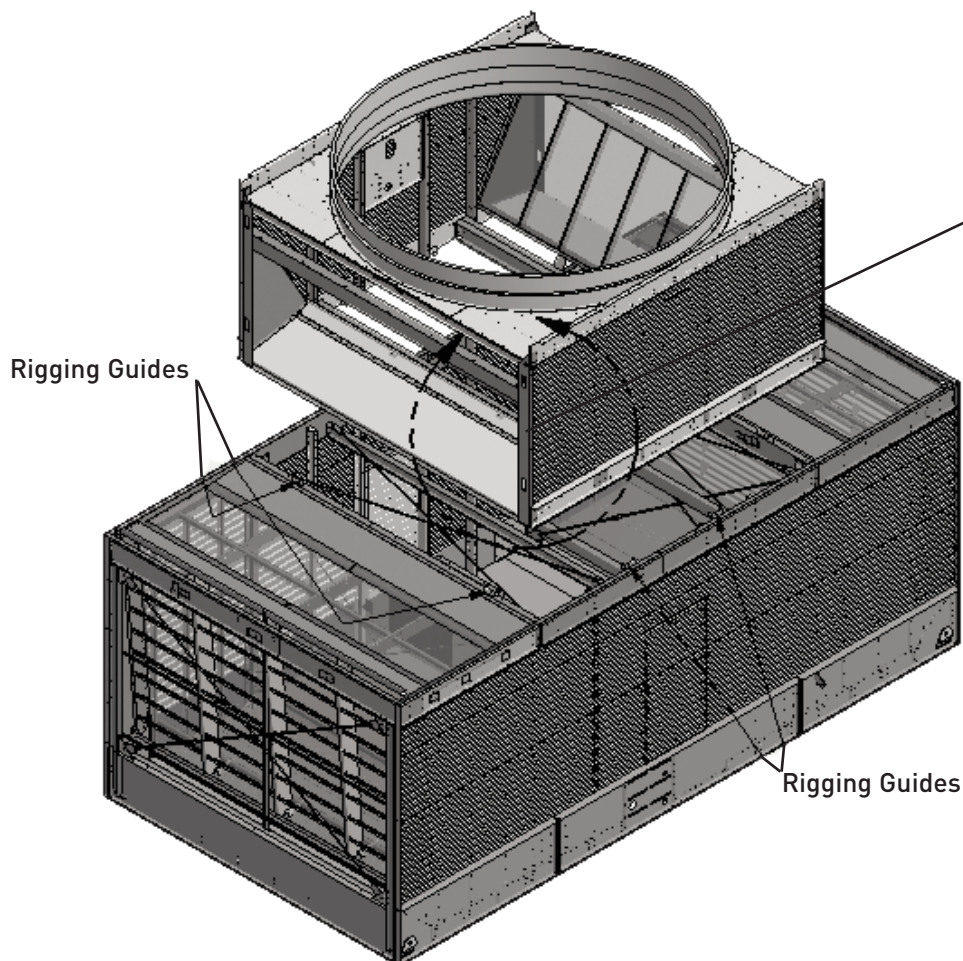

Figure 12: Plenum Module Rigging
- Lift and set the plenum module. Center the plenum module transversely and longitudinally. The rigging guides (shown in Figure 12) will engage when the plenum module is within 2" of the lower casing section. Bolt the plenum module in place at the four (4) internal bracket locations. See Figure 6 for typical bolting detail.